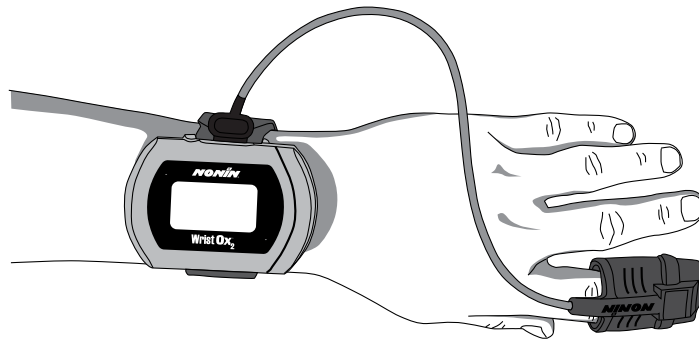

Figure 16: Apply Sensor to Patient
6. Apply the sensor to the patient (figure 16). Refer to the sensor Instructions for Use for proper sensor application sites and sensor application cautions and warnings.